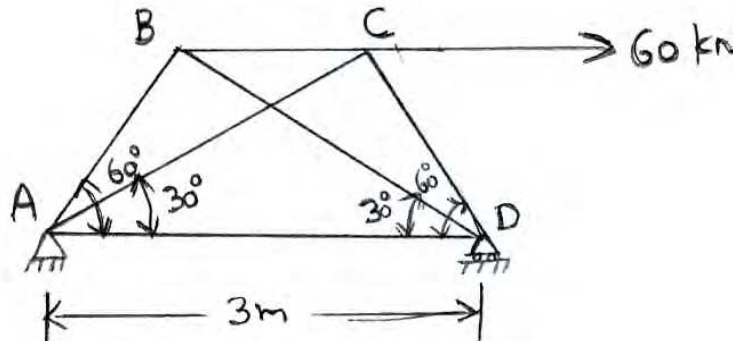

Figure 2
2. The pin-jointed truss shown in Figure 2 is having supports at A and D and is subjected to a horizontal force of 60 kN at C. Determine the forces developed in all members of the truss. Given cross-sectional areas of all members =  $6000 \text{ mm}^2$ , Young's Modulus  $200 \text{ kN/mm}^2$ . [16]